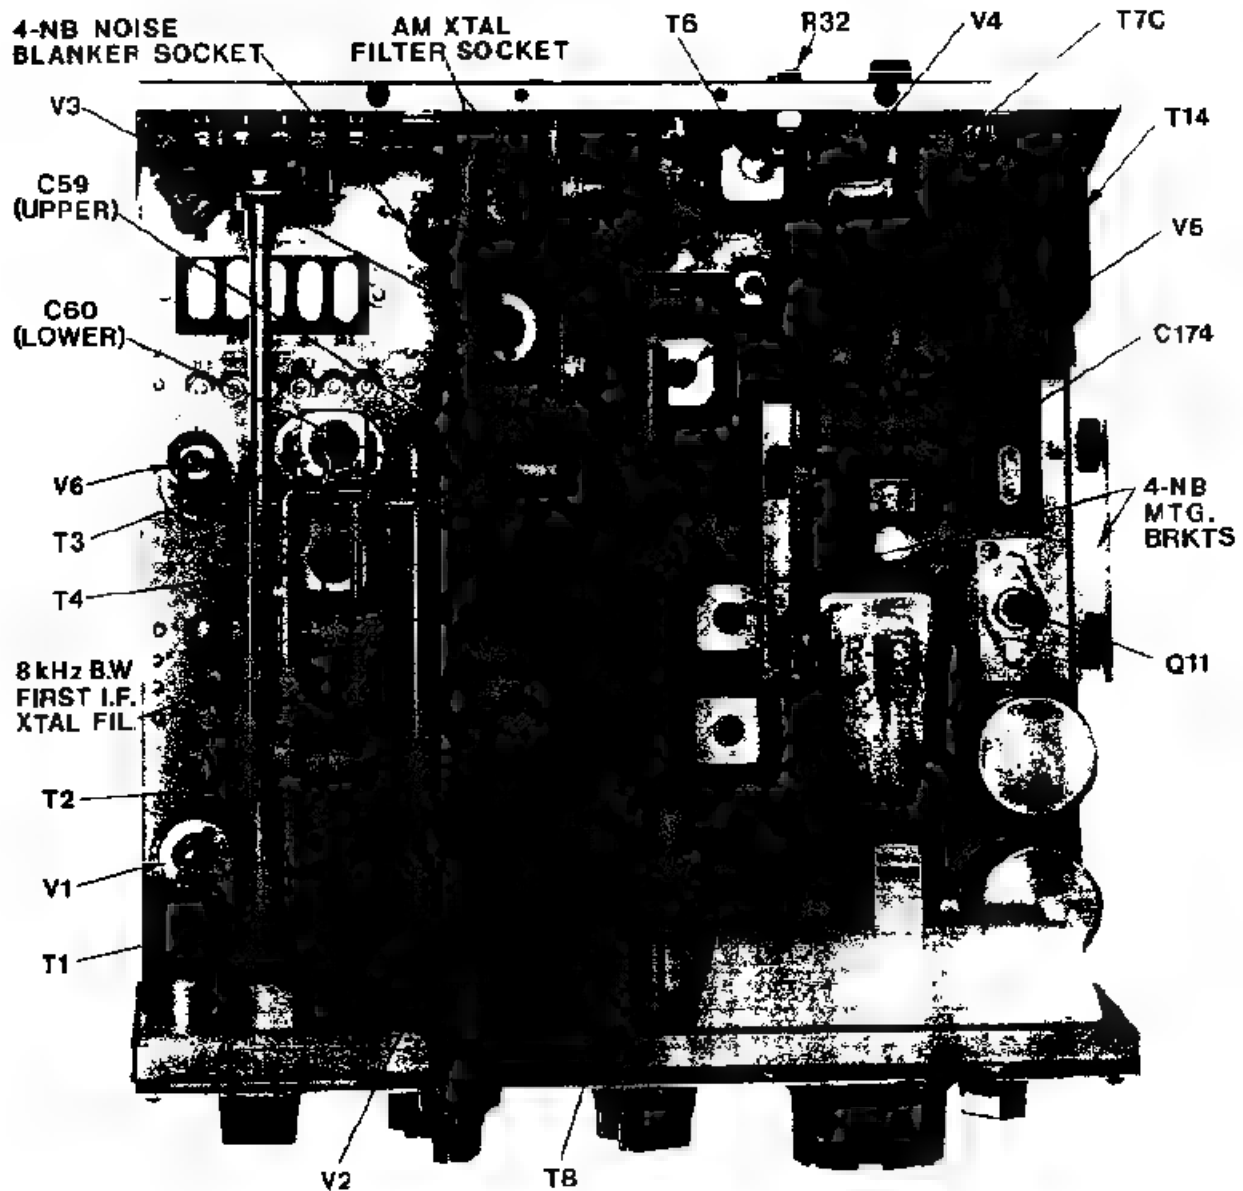

Figure 5-1. Alignment Locations, Top View
- g. Refer to figure 5-1. Adjust the four trimmers marked 28.7 for maximum S Meter reading. If the calibrator signal is insufficient to produce an adequate S Meter indication, remove the 47 Ohm resistor from the antenna input and connect the signal generator to the antenna input. Set the R-4C FUNCTION switch to EXT. MUTE, adjust the signal generator to 28.7 MHz, and set the generator output level to cause an S Meter indication of approximately S-7. Adjust the four trimmers marked 28.7 for maximum S Meter indication.
- b. Refer to figure 5-1 and determine the location of C174.